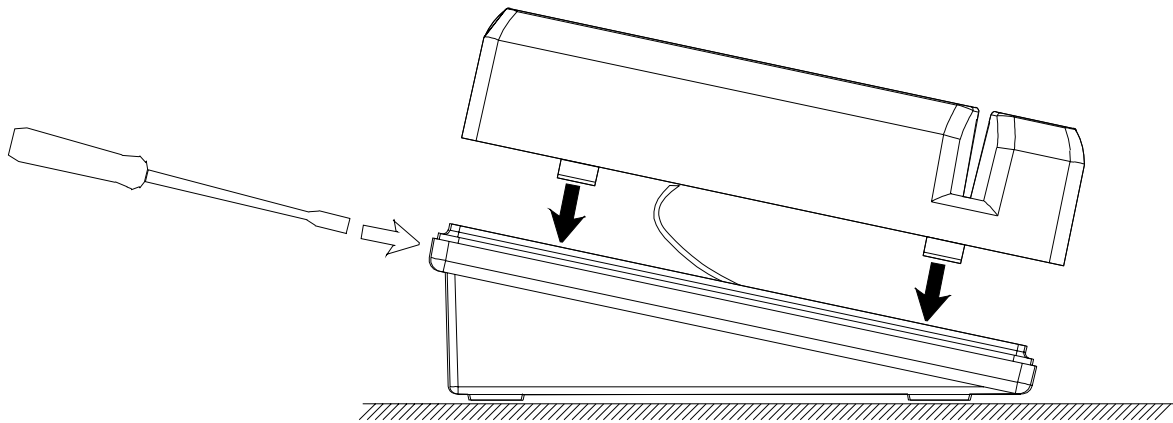

Figure 12: Closing the terminal (anchor-mounted assembly)
2. Insert the upper shell as indicated in Figure 12.